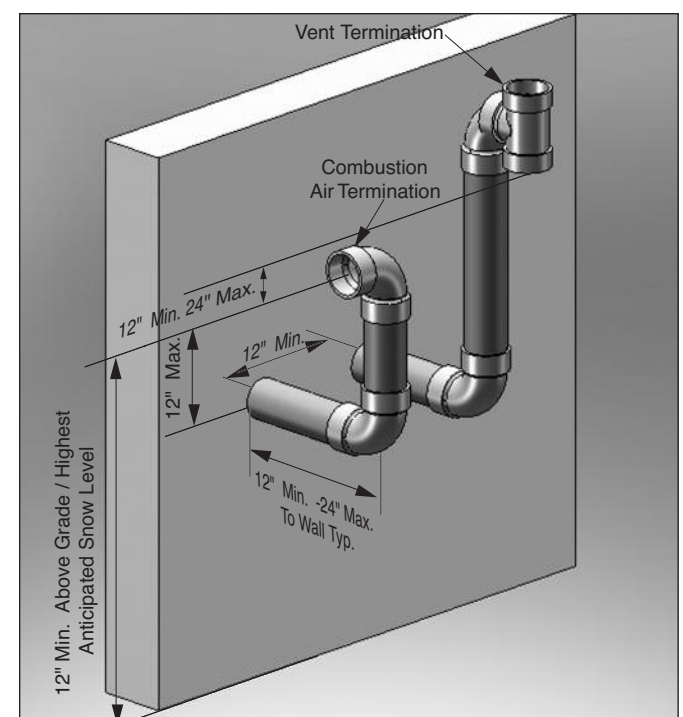

Fig. 11: Direct Vent - Sidewall Snorkel Termination of Vent and Combustion Air Piping with Tee Vent Termination
- Using a tee as shown in Figs. 11 or 14, page 11 or 12.
- Using a tee as shown in Fig. 11 or 14 page 11 or 12.